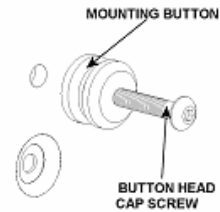

Figure 3
2. Attach mounting buttons to display using four M8 x 25 cap screws provided (see Figure 3 & Figure 4).